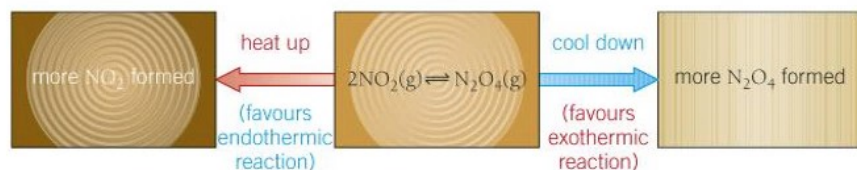

Figure 2 The effect of changing the temperature on $2\text{NO}_2(\text{g}) \rightleftharpoons \text{N}_2\text{O}_4(\text{g})$
If the temperature is increased, the equilibrium shifts as if to try to reduce the temperature. The reaction that is endothermic (taking in energy from the surroundings) will cool it down. So in this case, the reverse reaction is favoured and more NO_2 is formed (Figure 2).
- In Figure 2, what will happen to the colour of a mixture of NO_2 and N_2O_4 gases if you increase the temperature? Explain your answer. [2 marks]